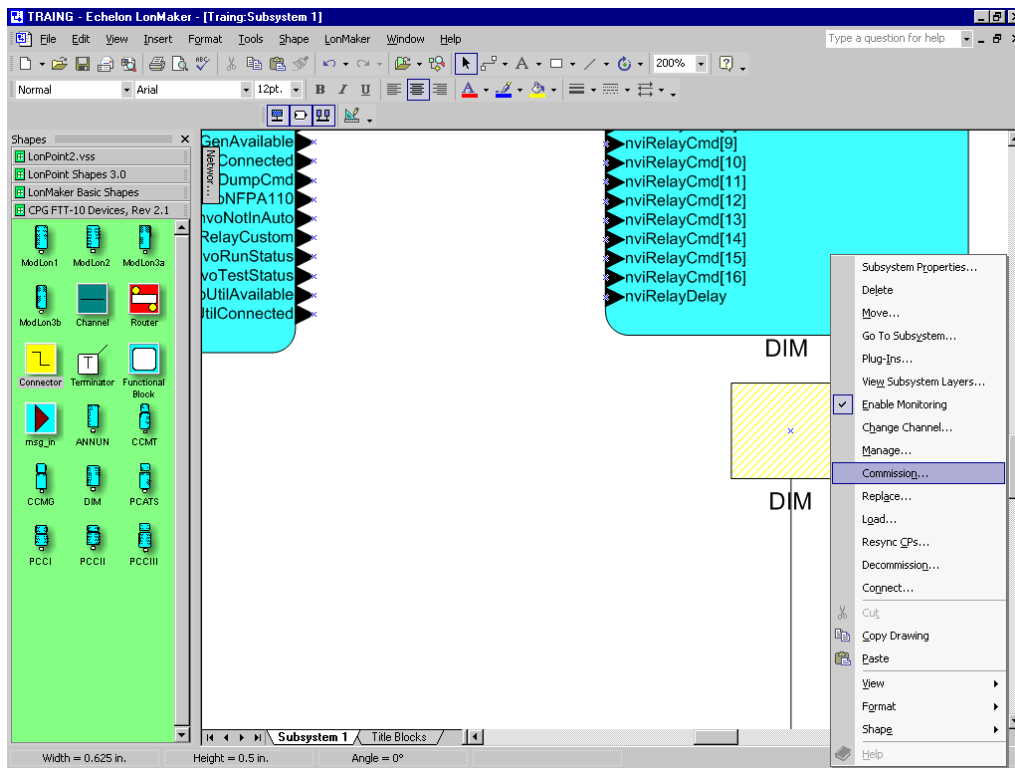

FIGURE 4-13. COMMISSIONING A DEVICE
Once all devices and bindings are added to the network (see Figure 4-13), save the drawing and commission the devices. First the network interface must be attached and the network placed On Net. To commission a device:
2. Right-click and select Commission from the pop-up menu (see Figure 4-13).